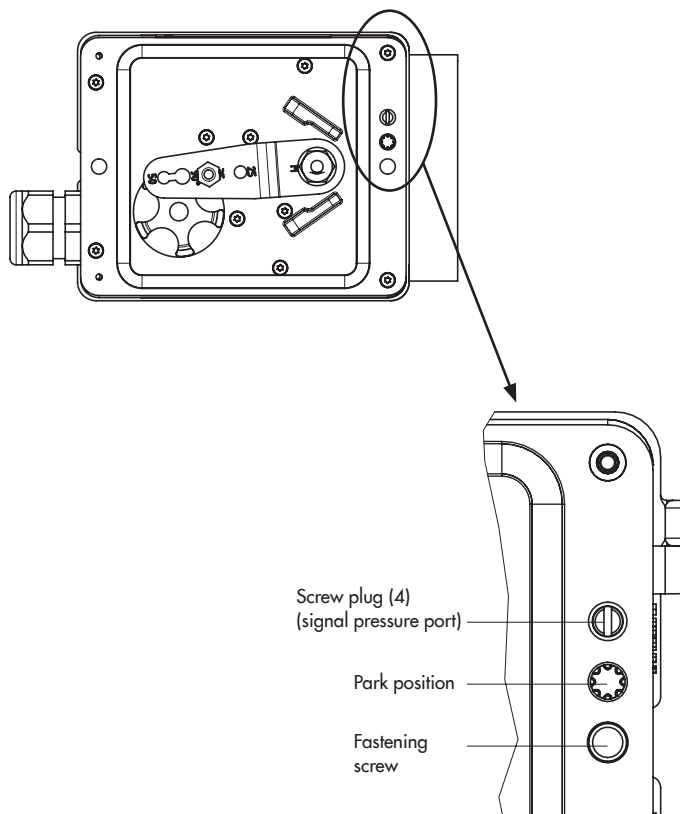

Fig. 8: *Signal pressure port and park position for screw plug*
1. Mount connecting plate (6) or pressure gauge bracket (7) with pressure gauges on the positioner, making sure the two seals (6.1) are seated properly.
2. Screw the screw plug (4) on the back of the positioner into the hole below it (park position) (see Fig. 8) and seal the signal pressure output on the connecting plate (6) or on the pressure gauge bracket (7) with the stopper (5) included in the accessories.
3. Place follower clamp (3) on the actuator stem, align it and screw tight so that the mounting screw is located in the groove of the actuator stem.
4. **15 mm travel:** Keep the follower pin (2) on the M lever (1) on the back of the positioner in the pin position 35 (delivered state). **7.5 mm travel:** Remove the follower pin (2) from the pin position 35, reposition it in the hole for pin position 25 and screw tight.
5. Insert formed seal (15) into the groove of the positioner housing.
If a solenoid valve is additionally mounted onto the actuator, the signal pressure port at the back of the positioner must be sealed (see Fig. 8). To do this, unscrew the screw plug located in the middle hole (screw plug in park position) and screw it into the signal pressure port to seal it.
- Thread the screw plug on the positioner into the hole below (park position) (see Fig. 8 on page 31).